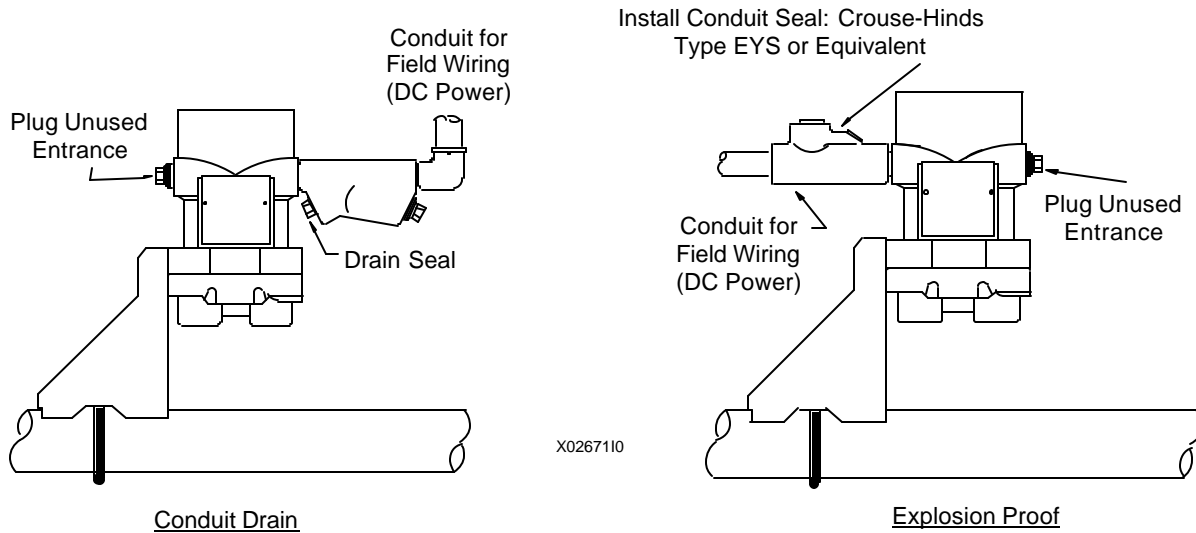

FIGURE 4-17 Conduit Drain and Explosion Proof Installations
- ✎ If a high humidity environment can exist and the transmitter is located at a low point in the conduit run, install drain seals at the transmitter's conduit inlets to prevent condensation from entering the Transmitter. See Figure 4-17.
-  User supplied explosion-proof conduit seals (glands) are required on transmitter housing conduit outlets and any installed junction boxes. See Figure 4-17.